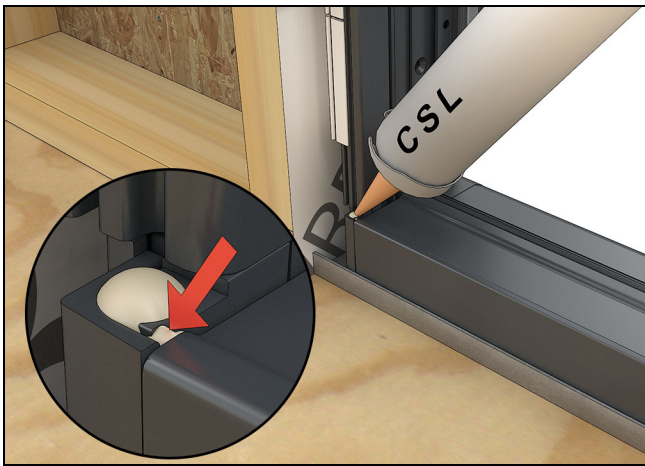

Figure 46 CSL 343 Sealant
12. Inject the sill. Put the uncut tip on your sealant gun. Inject the bottom corners of the frame until you see sealant exit the smaller adjacent hole. See Figure 46.